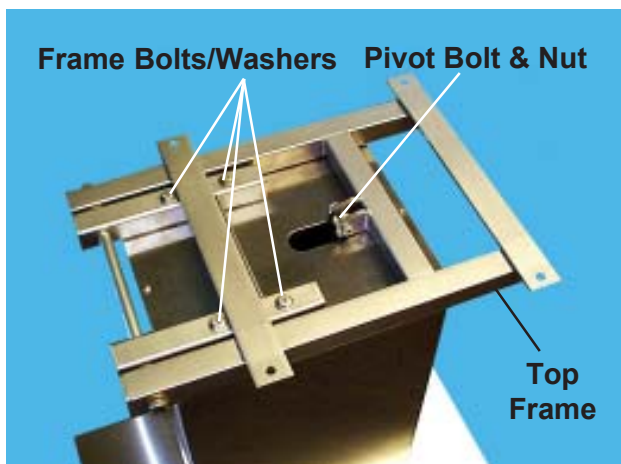

Figure 28. Removing the Top Frame
3. With a 1/2-in. wrench, remove the four frame bolts/washers that hold the top frame in place (Figure 28).
19. Screw in the four frame bolts/washers (Figure 28) but do not tighten them fully.